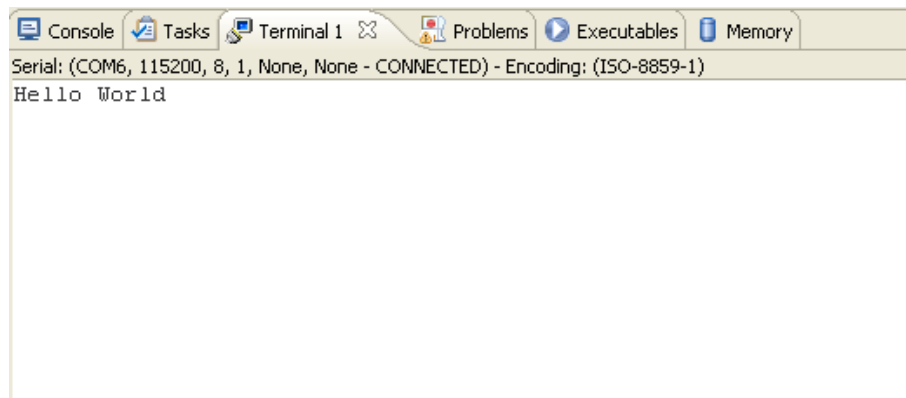

Figure 48: Terminal Output
3. You should see "Hello World" in the terminal if everything worked correctly (FIGURE 48).